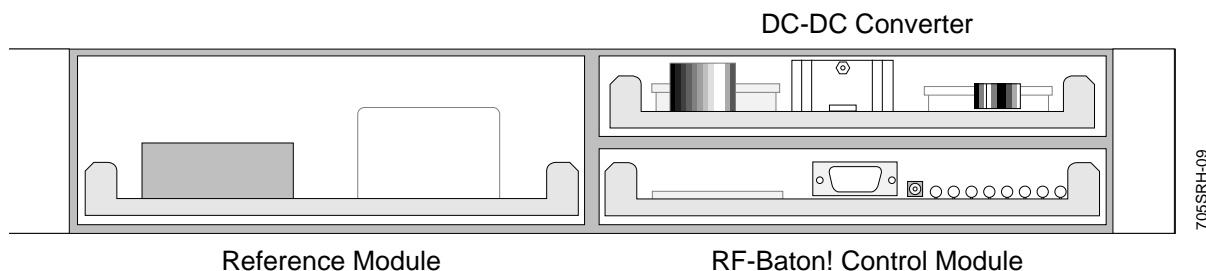

Figure 6-6: RF-B! Transmitter Controller (Front Panel Removed)
2. Unplug the DC-DC Converter from the RF-B! transmitter controller chassis (see Figure 6-6).
2. Unplug the BCM from the RF-B! transmitter controller chassis (see Figure 6-6).
1. Gently place the new BCM into its slot in the RF-B! transmitter controller chassis, firmly seating the board card-edge connectors into the backplane (see Figure 6-6).
2. Unplug the reference module from the RF-B! transmitter controller chassis (see Figure 6-6).